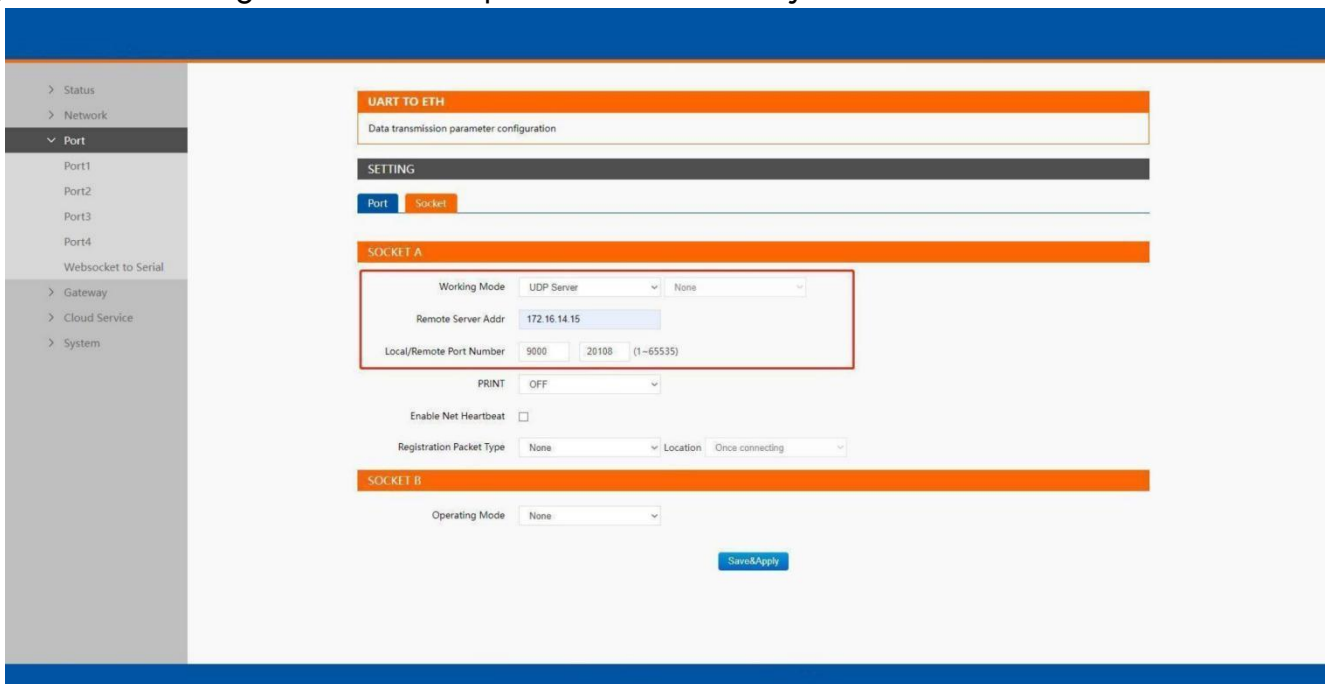

Fig.40 UDP server work mode
Fig.40 shows an example of configuration setting for UDP Server mode under the Port1 socket page. You can configure other serial ports in the same way.
1. Click on the "Port1" tab on the menu frame on the left side of Web UI to go to Port1 page as shown in Fig.40.